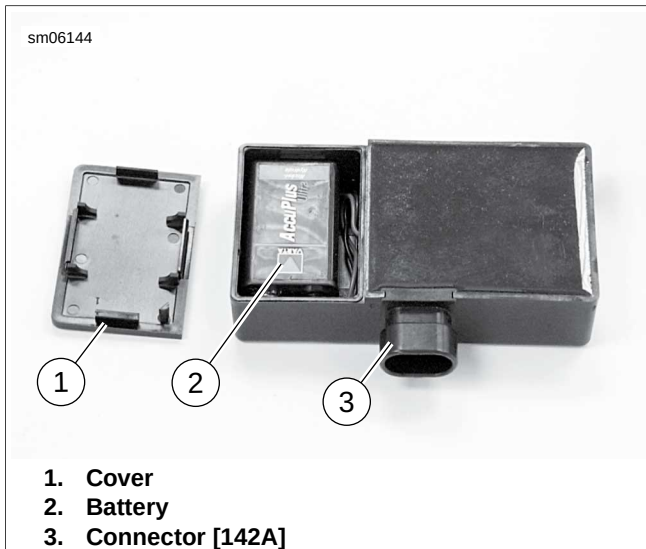
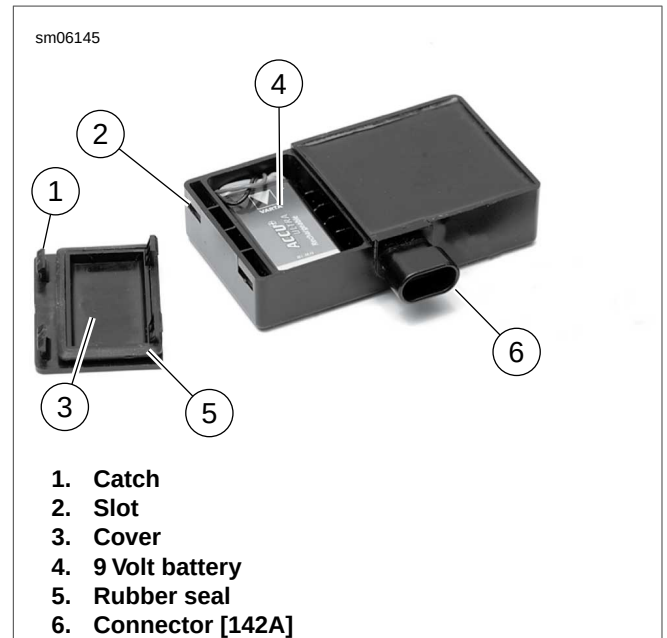

Figure 6-131. Siren Battery Compartment (Early Style Siren)
Figure 6-132. Siren Battery Compartment (Late Style Siren)
- See Figure 6-131 and Figure 6-132. Early style siren will work with both TSSM and HFSM. Late style siren will only work with HFSM.
- See Figure 6-131. Remove battery cover.
- See Figure 6-132. With a small screwdriver or pick, push the catches (1) in through the two slots (2) in the end of the siren to release the battery cover (3).